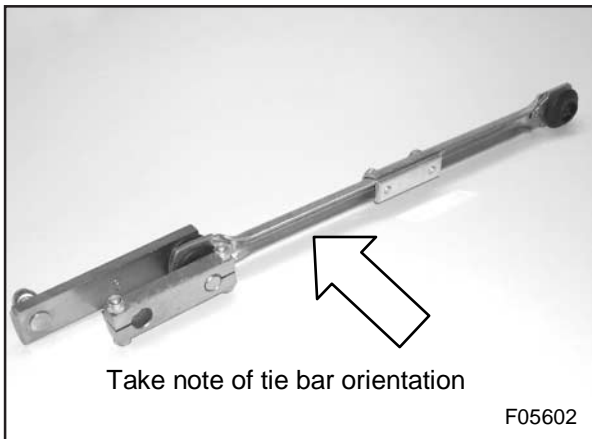

Figure 7 : Wiper motor linkage assembled
- 8) Remove the bell crank, clamp and wiper tie bar assembly from the motor shaft (see Figures 7 and 8).